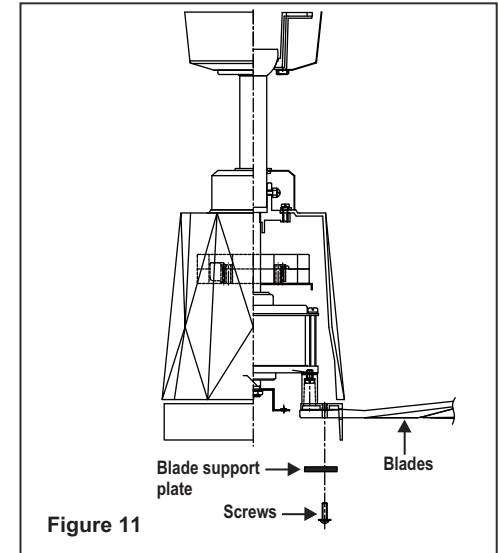

Figure 11
**Step 1.** Insert the blade through the slot in the housing. Align the holes in the blade and the fan motor assembly and secure with the blade support and blade screw with lock washer. (Fig. 11)